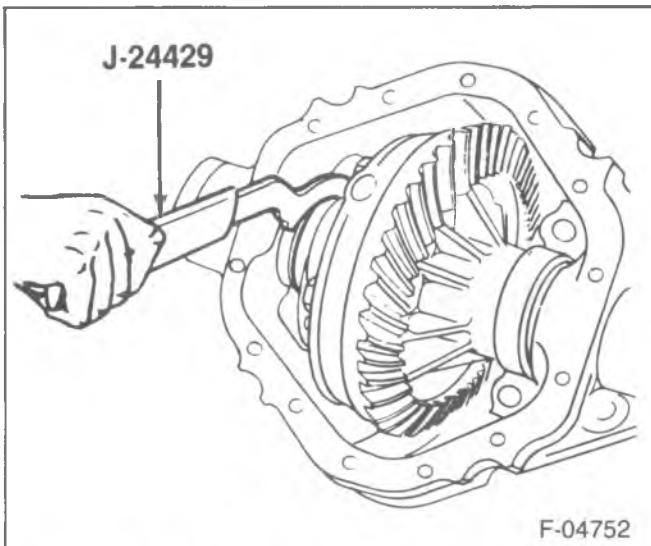

Figure 81—Adjusting the Differential Preload
Install or Connect (Figure 81)
- If the reading is too high, remove the adjusting nut locks, and loosen the right nut one slot, and tighten the left nut one slot (figure 81).